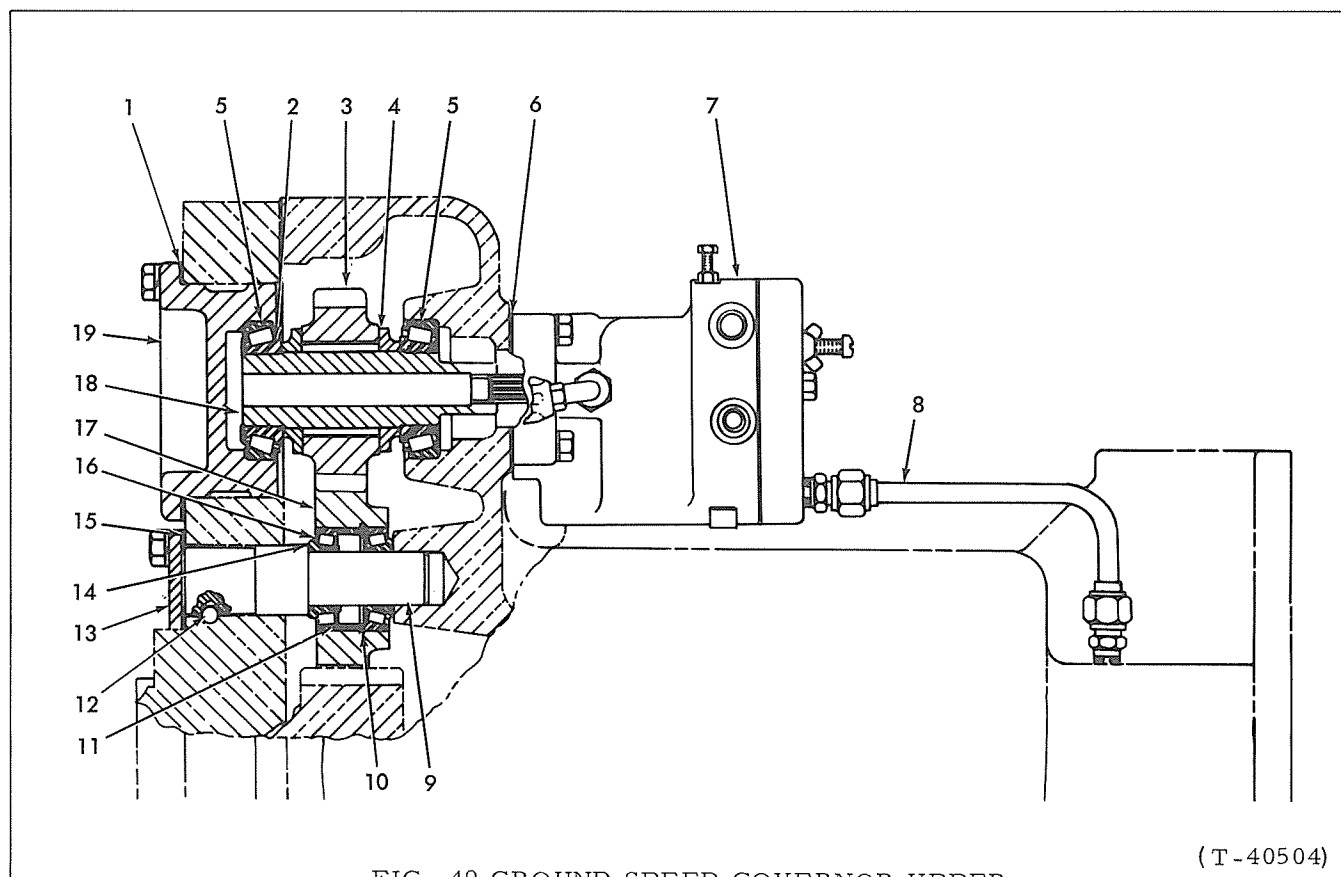

FIG. 49 GROUND SPEED GOVERNOR UPPER AND LOWER DRIVE SHAFT ASSEMBLIES
- (3) Install front cone assembly (6) on shaft; tap cone assembly with a suitable driver to make certain it is seated in bearing cup.
- p. Refer to Fig. 49, install ground speed governor upper and lower shaft assemblies in transmission case.
- a. Raise ground speed governor lower shaft, Fig. 49 (9) far enough to install steel ball (12) in hole in shaft; lower shaft into position.
- b. Hold cover (13) (without shims) firmly against lower shaft; measure distance between lower shaft cover and transmission front cover. Make a shim pack equal to the measurement plus .004" (.102mm) to obtain specified shaft end play. Install lower shaft cover, Fig. 49 (13) with shim pack (15) on transmission front cover.
- c. With bearing cup, Fig. 49 (5) installed in ground speed governor upper shaft cover (19), hold cover (without shims) firmly against upper shaft bearing. Measure distance between upper shaft cover and transmission front cover; make a shim pack equal to the measurement plus .005" (.127mm) to obtain specified shaft end play. Install upper shaft cover (19) with shim pack (1) on transmission front cover.